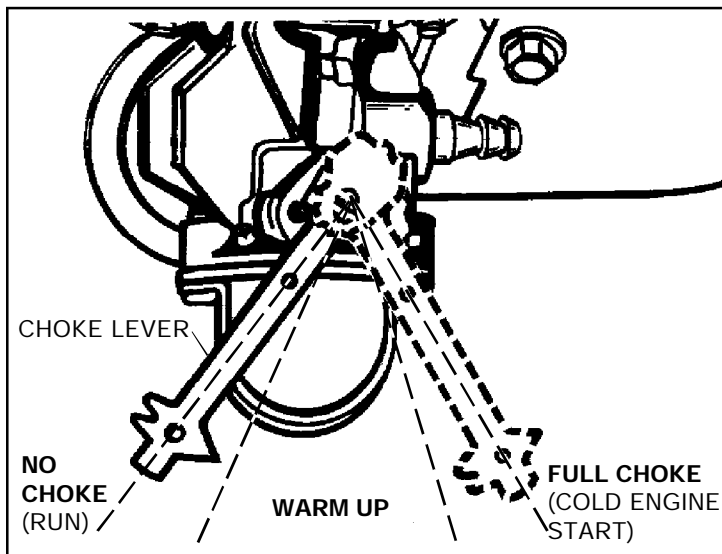

Figure 3
**NOTE:** If engine is remotely controlled, see equipment manufacturer's instructions for control positions which correspond to engine control positions in Figure 3.
- A. Move choke lever on engine or equipment (see Figure 3) to "FULL CHOKE".